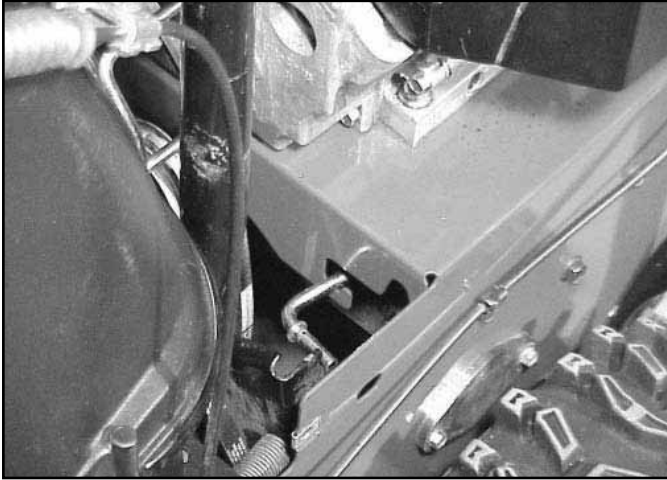

Fig 066
3. Move the link to the side and let it rest in the saddle provided (Fig. 066). Reach down alongside the link and remove the belt from the lower pulley. Then remove the belt from the crankshaft pulley.